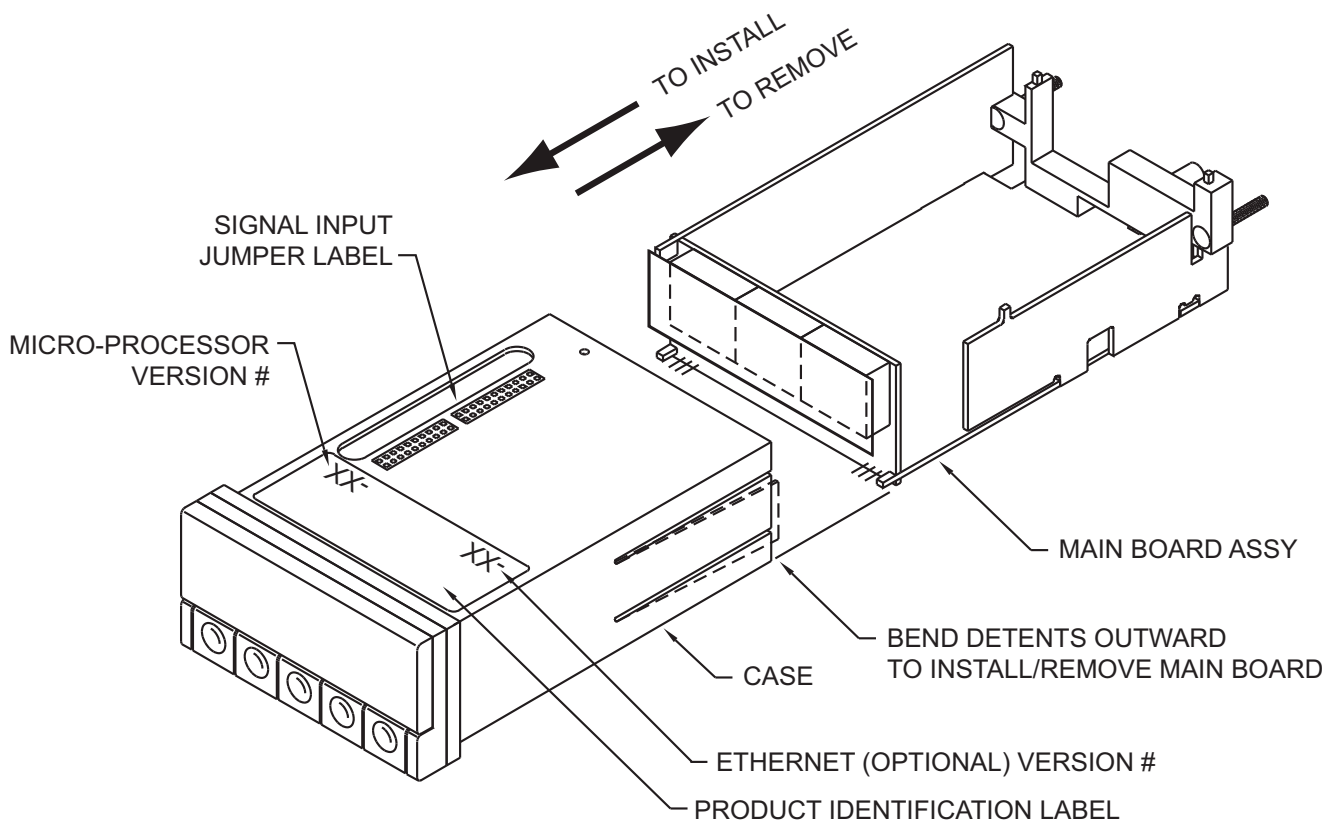

Figure 5-2. Board Assembly Removing/Installing Detail
5. Using **Figure 5-2** as a guide, bend the side-panel detents on the case outward and pull the board assembly out of the case by the mounting screw stem.
Spread the side-panel detents of the case, see **Figure 5-2**, and carefully slide the main board all the way in.
To look at the Rating/Product ID label on the case, you must follow the first step as described in **Section 5-2**. Refer to **Figure 5-2** for the location of the Product Identification label.
The meter's operating voltage is shown in the VOLTS: entry of the Product Identification and Serial Number Label. It is located on the case, as shown in **Figure 5-2**, and is clearly visible on the meter packing box.